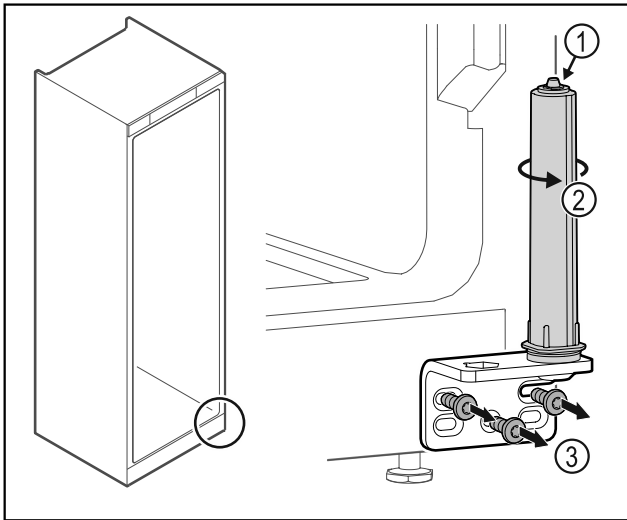

Fig. 46
- Do not disassemble the door closing system Fig. 46 (1).
- ▶ Turn the closing system Fig. 46 (2) until it clicks.
- ▶ Unscrew the hinge Fig. 46 (3).